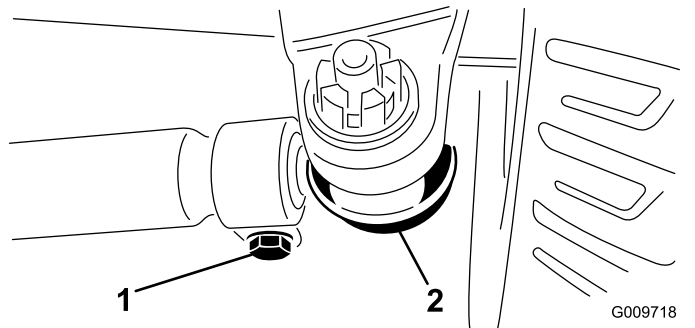

Figure 61
2. To adjust, remove the cotter pin and nut from either tie rod ball joint (Figure 61). Remove the tie-rod ball joint from the axle-case support.
3. Loosen the clamps at both ends of the tie rods (Figure 61).